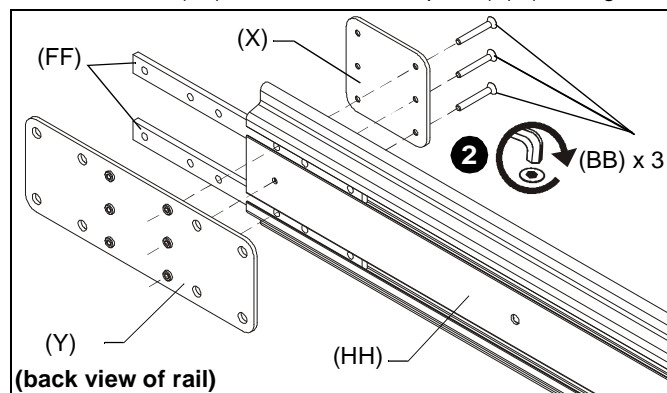

Figure 2
- Secure connector bracket (X) to front of mounting rail (HH) using three 10-24 x 1-1/2" flat head cap screws (BB) fastened through one side of connector bracket, mounting rail, tie bars (FF) and into connector plate (Y). (See Figure 2)